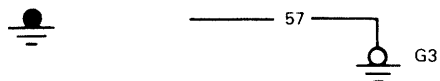

Fig. 1 - Ground Symbols
- Ground symbols are shown in Figure 1. A ground wire connected away from the component is identified by a code G1 or G2, etc. The location of the remote ground is listed in the GROUND CODES chart and the bottom of the page.